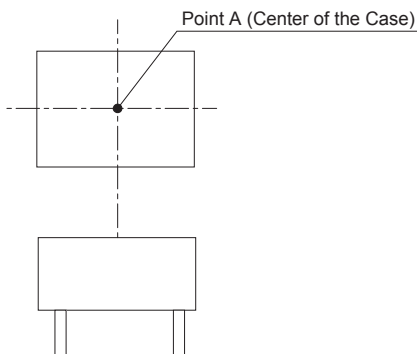

Fig.6.1 Temperature Measuring Point on the case (Top View)
- Please have sufficient ventilation to keep the temperature of point A in Fig.6.1 at Table 6.1 or below. Please also make sure that the ambient temperature does not exceed 85°C.